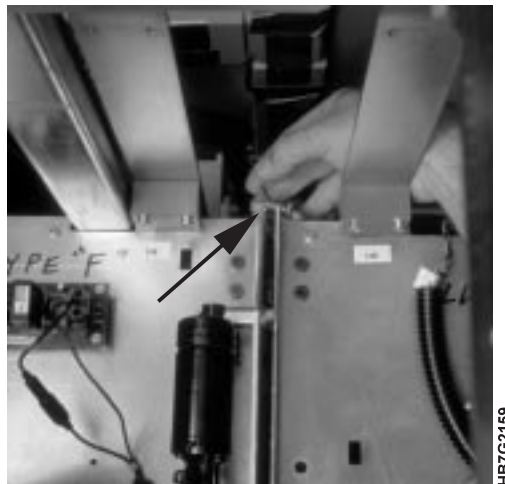

Figure 238. Top Latch between the X and Y Towers
- 4 Unlatch the tops of the X and Y towers by pulling up on the latches located at the top center between the towers, as shown in Figure 238. Do this on both sides of the towers.